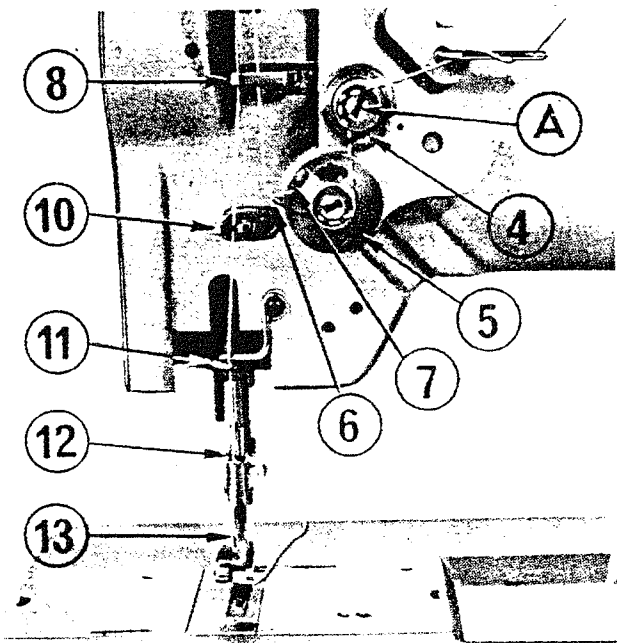

Fig. 11
The tension of the needle thread is adjusted by turning the thread tension nut (Fig. 11 ① ).